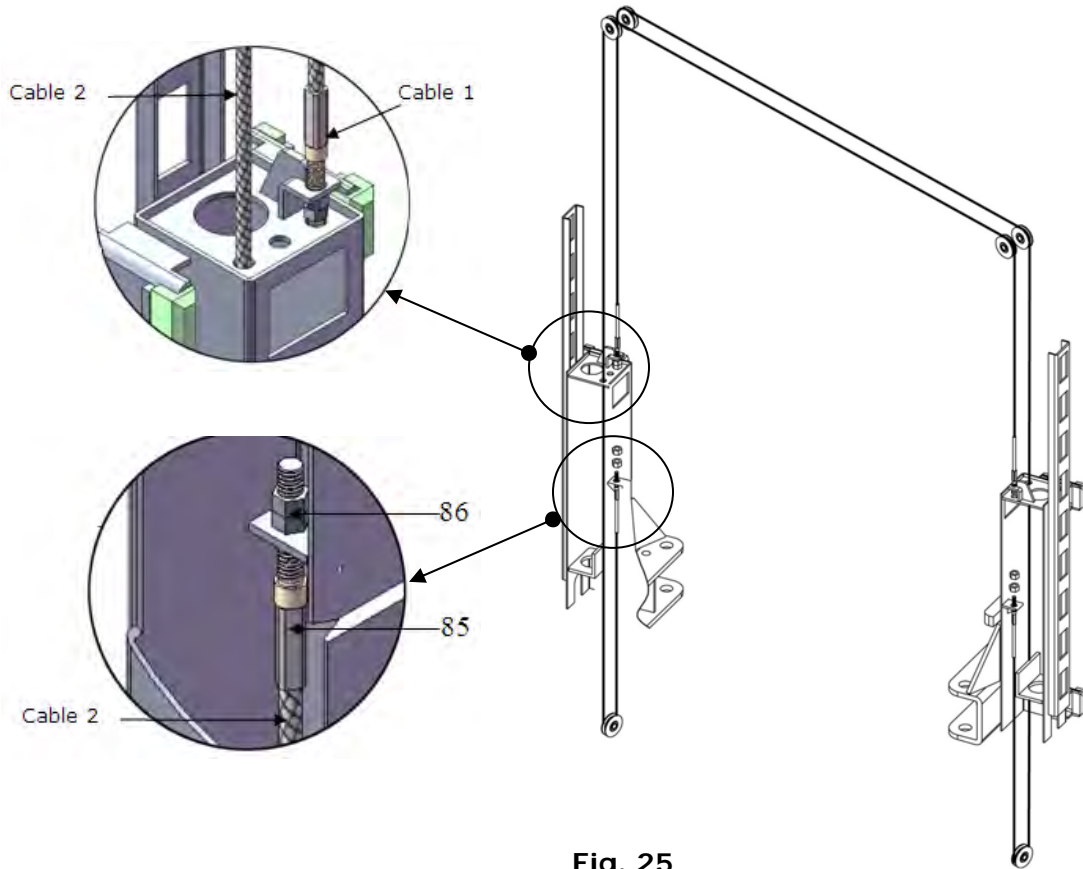

Fig. 25
2. Connecting Cable for high setting (See Fig. 25).